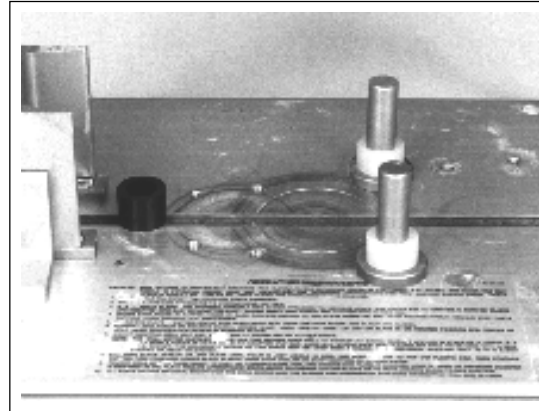

FIGURE 7 - SPACER ADAPTERS FOR 6.5" AND 8" PORTED END PLATES
4.04 When using 6.5" or 8" End Plates with factory installed entry ports, slide the white spacer adapters (provided) over the stop-posts and place the black spacer adapter (provided) at the front edge of the clamp. (Figure 7)